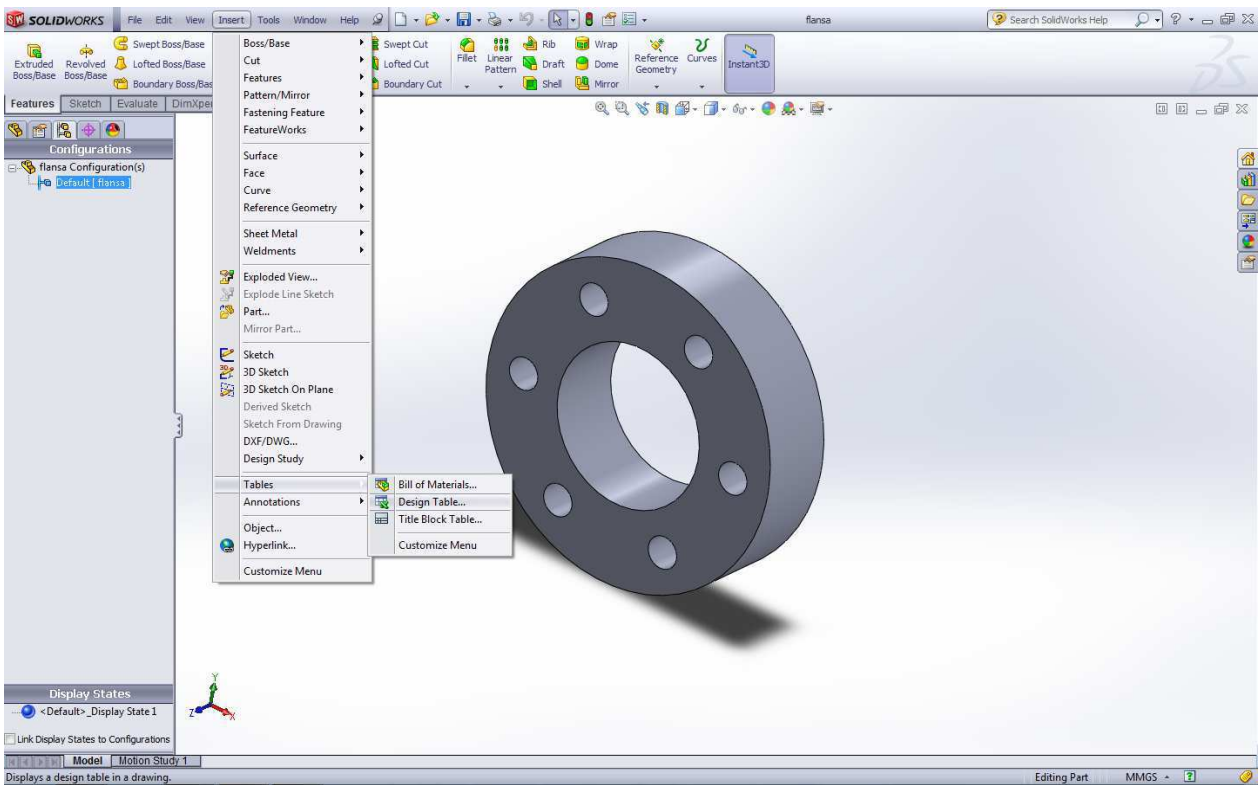

Figure 3. Creating a configuration using a design table
- A - using SolidWorks software for inserting a design table automatically (figure 3). The steps are: